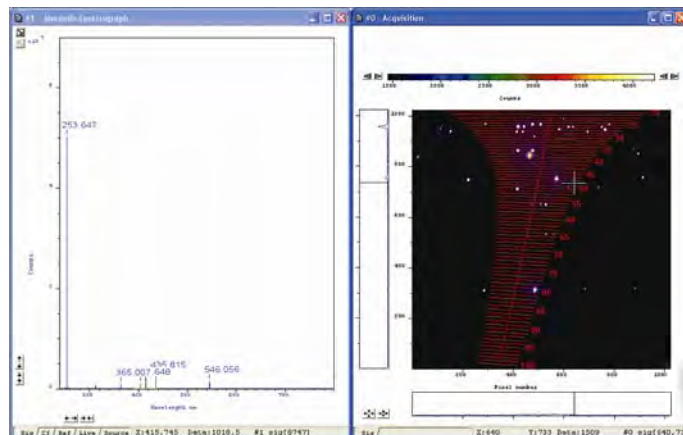

Figure 25: Signal from the Mercury lamp after correction
- **Figure 25** shows the same data after applying the relative efficiency correction. Here the intensity of 546nm line is much lower than the 253.7 nm line